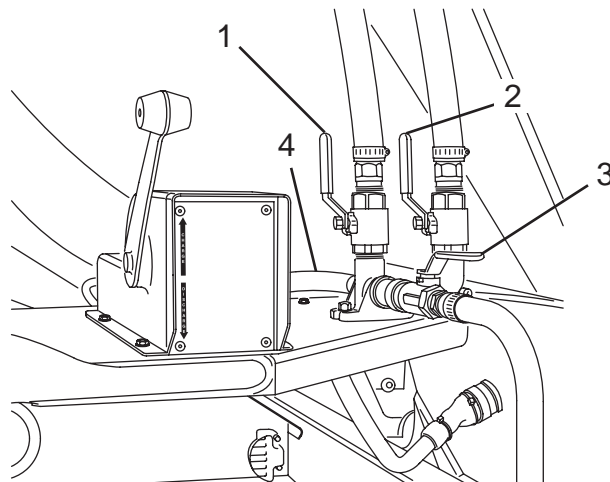

Figure 71
5. Open wash-out hose valve (Figure 71, Item 3) at the rear of the Mixer and allow water to drain.
6. Open drum wash-out valve (if equipped) (Figure 71, Item 1), and add-water valve (Figure 71, Item 2) and allow water to drain.
10. Close the drum wash-out valve (if equipped) (Figure 71, Item 1) and add-water valve (Figure 71, Item 2).
13. Open the drain petcock located at the lowest point in the supply hose (Figure 71, Item 4).